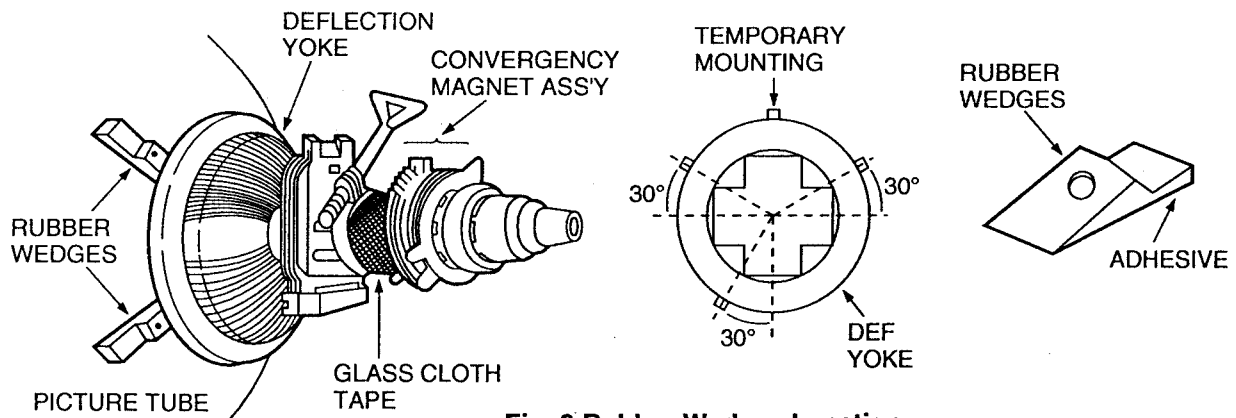

Fig. 2 Rubber Wedges Location
Convergence magnet assembly and rubber wedges need mechanical positioning following the figure 2.
- 6) Rotate and spread the tabs of the purity magnet (see figure 2) around the neck of the picture tube until the green belt is in the center of the screen. At the same time, center the raster vertically.
- 2) Place a wedge as shown on figure 2 temporarily. (Do not remove cover paper on adhesive part of the wedge).
- 9) Stick 3 adhesive tapes on wedges as shown in figure 2.